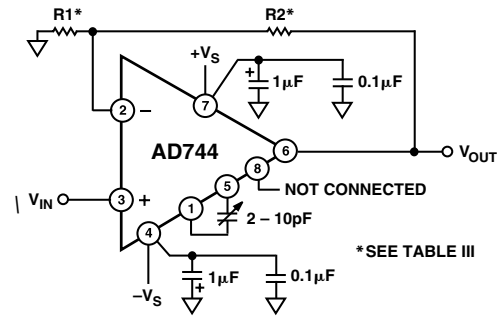

Figure 33. Using the Decompensation Connection to Extend Gain Bandwidth
When the AD744 is used in applications where the closed-loop gain is greater than 10, gain bandwidth product may be enhanced by connecting a small capacitor between Pins 1 and 5 (Figure 33). At low frequencies, this capacitor cancels the effects of the chip's internal compensation capacitor,  $C_{COMP}$ , effectively decompensating the amplifier.
**Table III. Performance Summary for the Circuit of Figure 33**